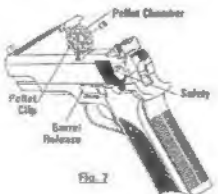

Fig. 7
- Open the barrel by pulling back on the barrel release rearward until the barrel pops open. (Fig. 7)
- For ease of loading, remove the pellet clip and place a .177 pellet, nose first, in each pellet chamber. (Fig. 7) To avoid jams or deforming the pellets, make sure the pellet skirt is level or slightly below the rim of the pellet chamber.
- Replace the pellet clip on the barrel as shown in Fig. 7.